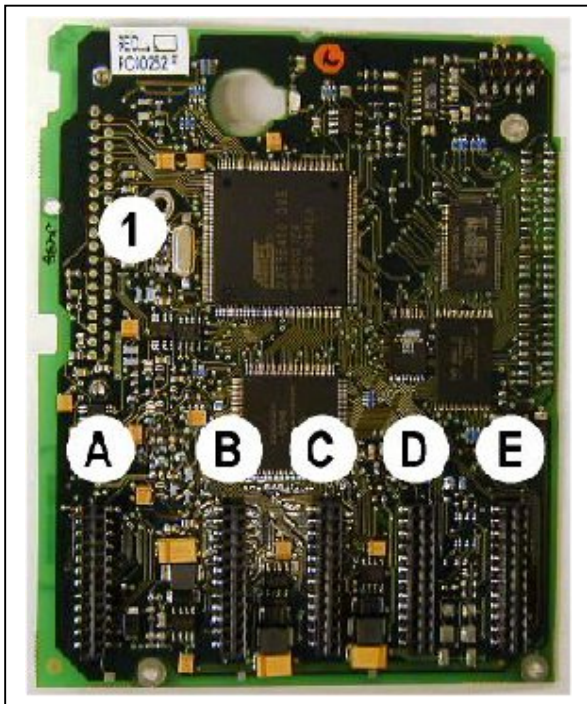
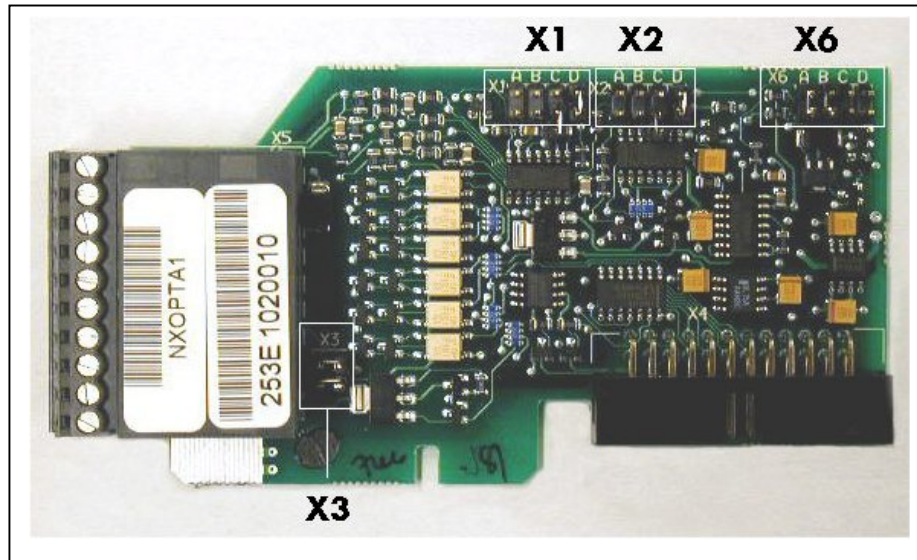

Figure 6-13. control board
Figure 6-20. Jumper blocks on OPT-A1
The control unit of the inverter consists of the control board and option boards (see Figure 6-13 and Figure 6-20) connected to the five slot connectors (A to E) on the control board. The control board is connected to the power unit through a D connector (1).